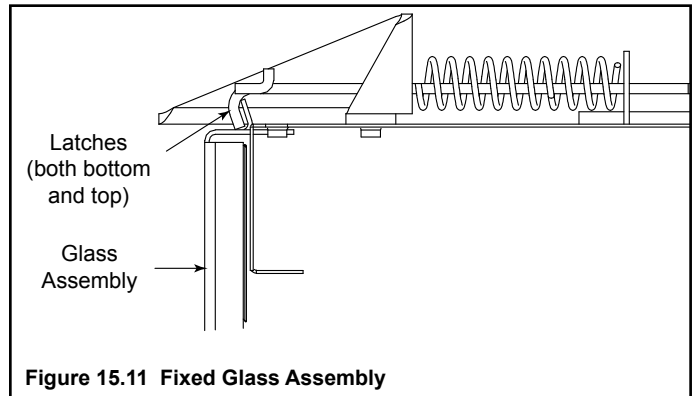

Figure 15.11 Fixed Glass Assembly
- Remove the glass panel assembly from the appliance. See Figure 15.11.